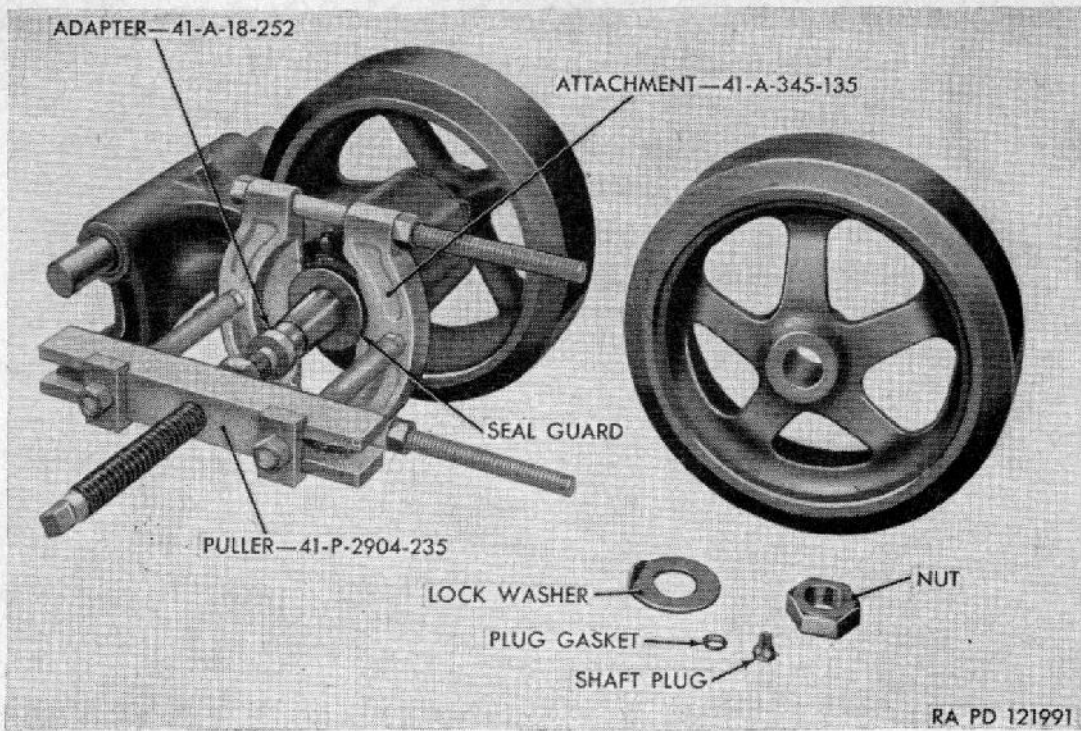

Figure 152. Removal of seal guard.
- (1) *Remove wheel from shaft.* Refer to paragraph 207a.
- (2) *Remove seal guards and bearing retainers.* Clamp jaws of bearing puller attachment 41-A-345-135 around seal guard in back of flange (fig. 152). Screw the 18-inch legs of push puller 41-P-2904-235 into tapped holes in the jaws, and assemble puller block on legs (fig. 152). Using step plate puller adapter 41-A-18-252 between the forcing screw and shaft, turn nut onto forcing screw to pull guard off shaft. Pull second wheel and seal guard in the same manner as above. The seal rings and seal boots and spring followers will be removed with the guards. Remove bearing retainers and shims under retainers by removing the six cap screws from retainer attached to the suspension arm assembly.
Lift shaft and bearing from arm; then pull the bearing cone and roller assemblies from shaft in the same manner and with the same tools used to remove the seal guards (fig. 152).